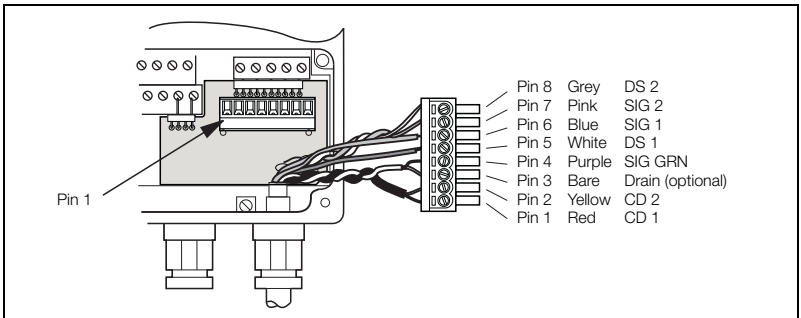

Fig. 4.3 Fitting the Sensor Cable Plug
5. Connect the sensor cable leads to the adaptor plug – see Fig. 4.3. Do not fit the plug to the socket on the adaptor board.